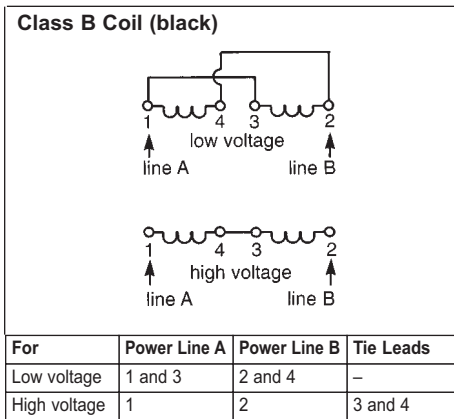

Figure 3
**Note 2:** See figure 3 for dual voltage coil connection and connect to any two leads of single or three-phase motor of the same voltage. The brake can also be wired to external switch contacts providing proper voltage other than that used to control the motor. Normally, the motor and brake contacts are interlocked.